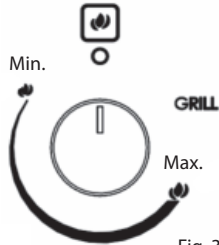
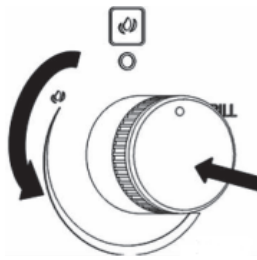
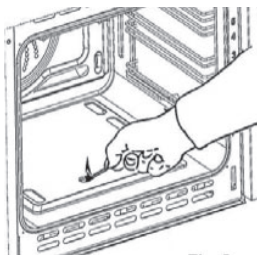

Fig. 3
Fig. 4
Fig. 5
The indicator on the control panel (Figure 3) shows the increasing oven temperature.
2. Press the thermostat knob to start electrical ignition and while keeping the knob pressed, turn it counter-clockwise (Figure 4) until it reaches the Maximum position (Figure 3).
To operate the oven manually in case of an electrical malfunction, bring a flame close to the point «A» on the floor (Figure 5) and then press and turn the thermostat knob (Figure 4).